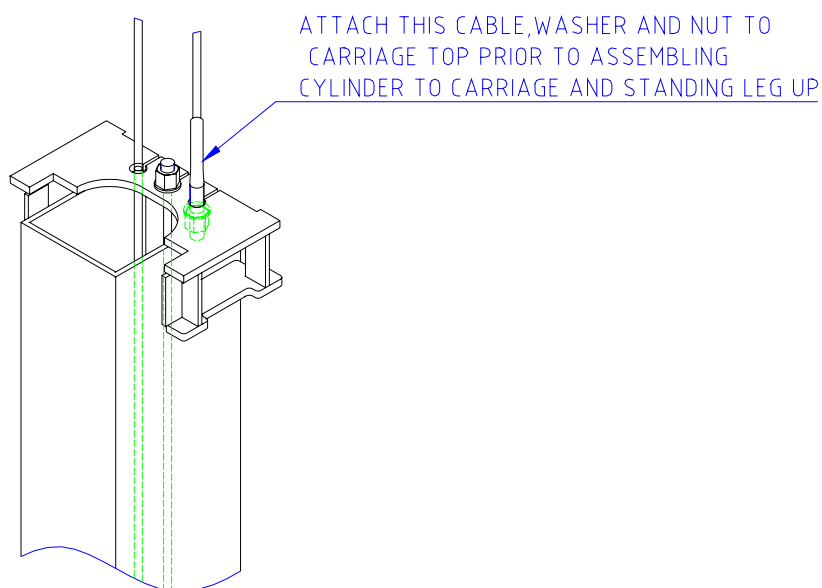

Figure 6
- M. Feed one end of an equalization cable down through the rightmost hole in the carriage top, figure 6. Continue to feed the cable until it extends out the bottom of the carriage. Attach a nylon insert locknut and washer to the end of the cable so that 1/8" of cable stud extends past the end of nut. Pull the opposite end of the cable until the washer contacts the carriage top. Repeat for the other cable/carriage.